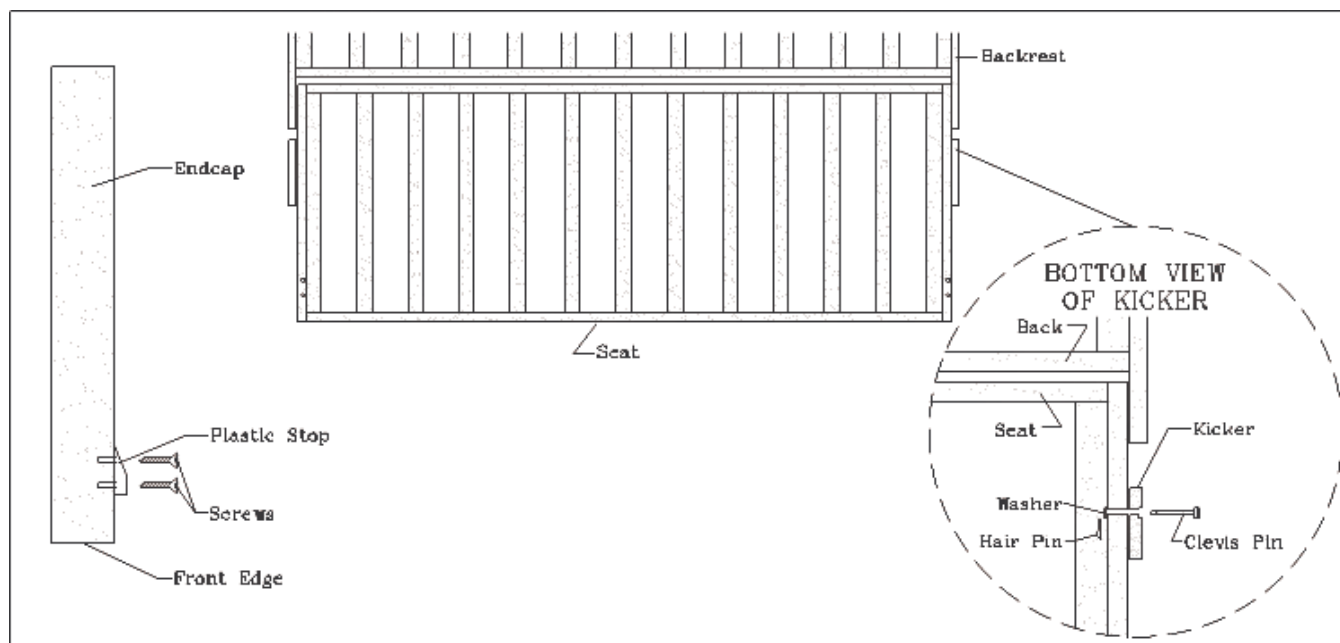

Figure 4
- 5) Locate kickers. Insert a clevis pin through side of kicker. Push clevis pin through remaining hole inside of seat. Secure clevis pin with flat washer and hair pin. Repeat for opposite side (Figure 4).
- 6) Locate plastic stops. Locate four small holes on bottom of seat (2 at each end). Insert stops into frame (Figure 4). Use Phillips screwdriver to set screws. Do not use a screw gun and be careful not to over tighten screws.